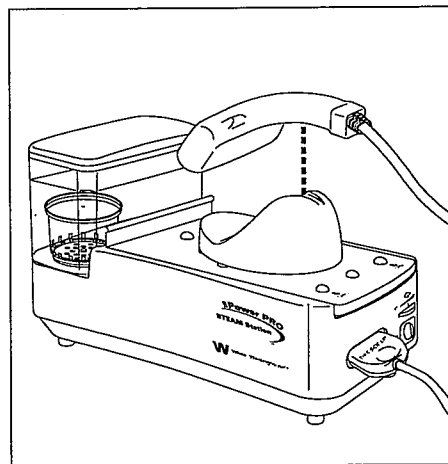

Figure 8
4. Place Steamer into Steamer Rest as shown in Figure 8.